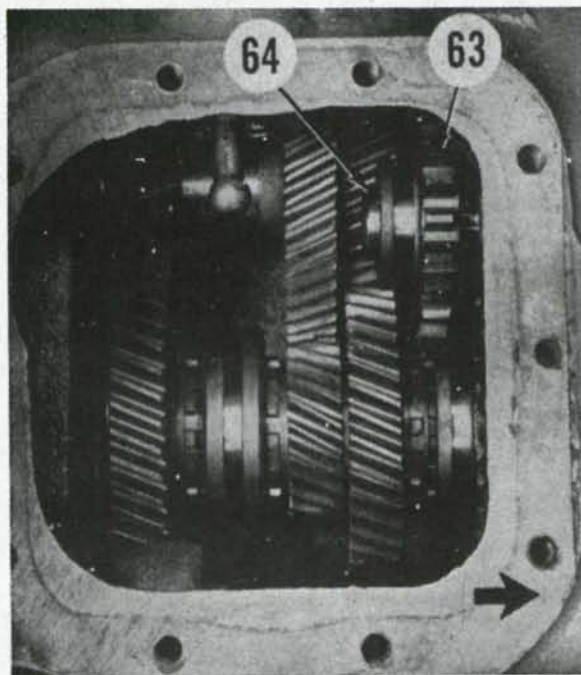

Fig. AC95—Model CA reverse idler gear (63) and shaft (64) installation viewed through transmission cover opening.
212. *REVERSE IDLER AND SHAFT.* Reverse idler gear (63—Fig. AC95) and shaft (64) can be removed whenever the transmission is detached from